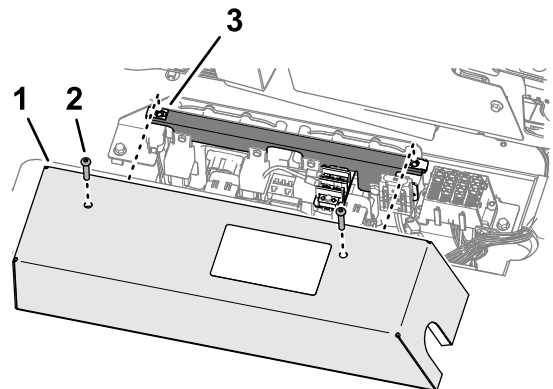

Figure 44
1. Align holes in the controller cover with clip nuts on the electrical-component mount (Figure 44).
2. Install the controller cover to the electrical-component mount (Figure 44)